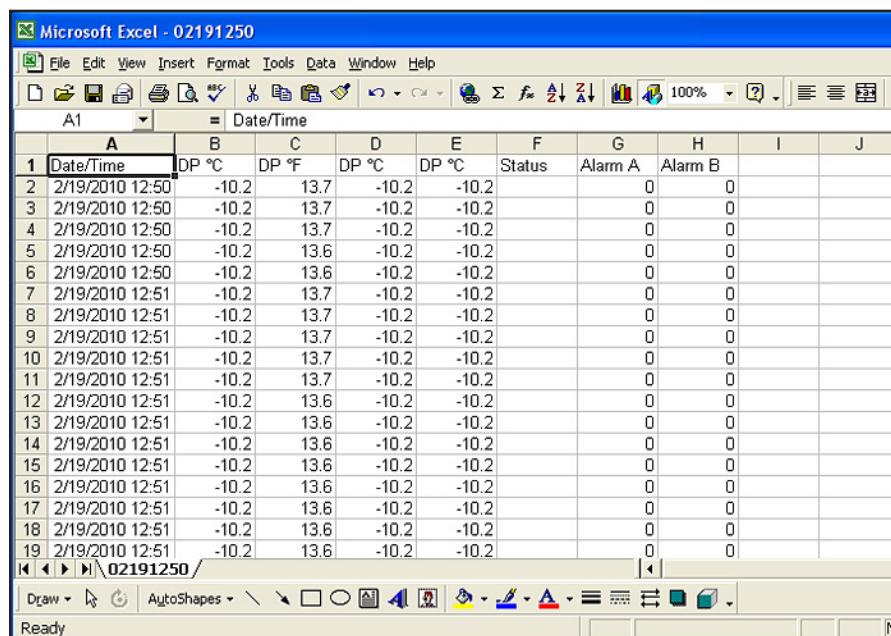

Figure 62: Successful Log File Import
- When the setup is complete, click on **Finish**, and a window similar to *Figure 62* below will open. The log file is now properly formatted for graphing or analysis, and the results may be saved as a standard spreadsheet file for future use.